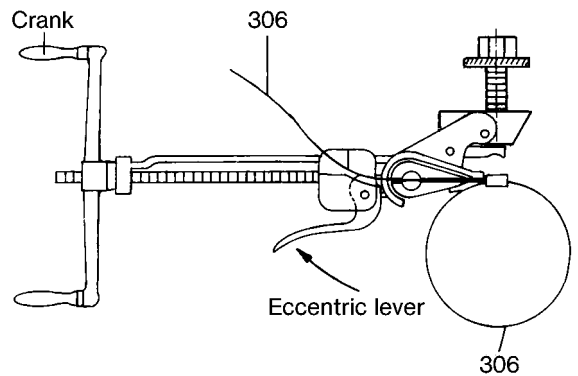

Fig. 9: Clamping the clamping band by means of clamping tool Band-It and adapter J050.
- Push the band end of the clamping band (306) up to the clamp lock into the clamping tool with adapter.
- Hold the band end with the eccentric lever of the clamping tool and tighten the clamping band (306) by turning the crank (Fig. 9).